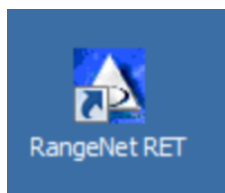

Fig. 3: RangeNet RET Icon installed on Desktop
7. Close the application. Program installation is complete. During this installation process, the icon shown in **Figure 3** will be installed on the Desktop.